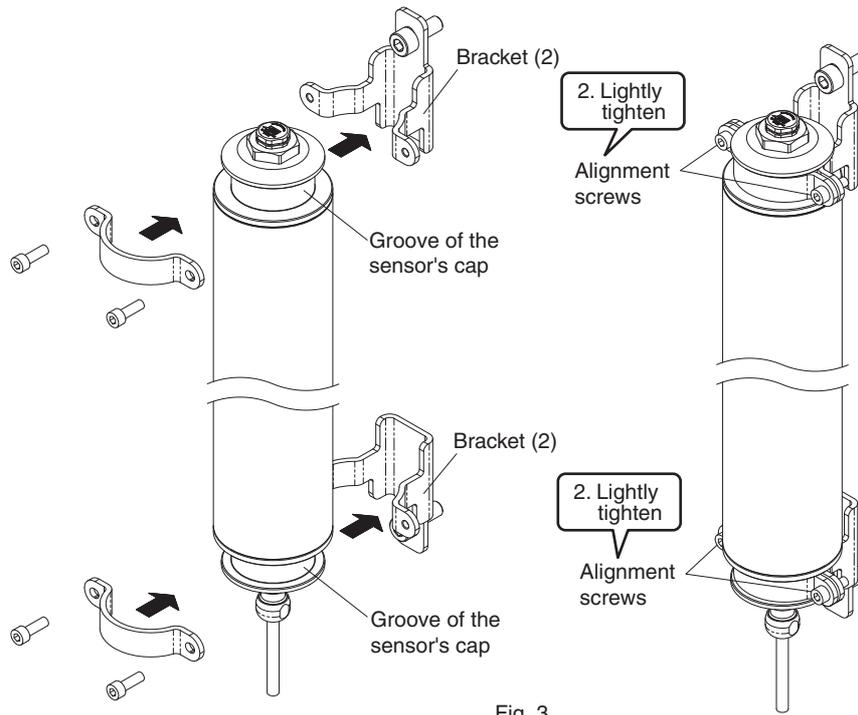

Fig. 3
- Fit the groove of the sensor's cap to the bracket (2), mount the bracket (1), and tighten the alignment screws until the sensor no longer drops (Fig. 3).